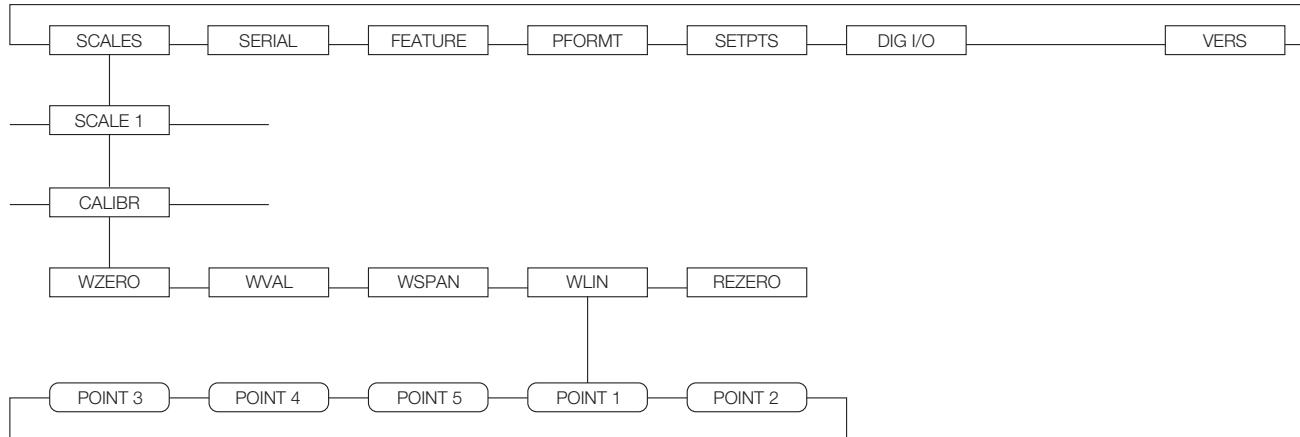
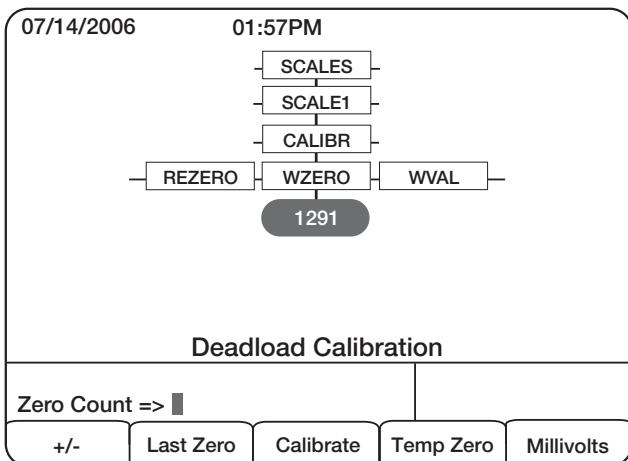

Figure 4-1. Calibration (CALIBR) Submenu
Figure 4-2. WZERO Calibration Display
The CALIBR submenu (under the SCALES menu, see Figure 4-2) is used to calibrate the 920*i*. The zero, span, and linear calibration point displays provide a set of softkeys used specifically for calibration procedures:
2. With the **SCALES** menu highlighted, press the **down** key, then select the scale to be calibrated. Press **down** again (**GRADS** parameter highlighted), then press **left** to highlight the **CALIBR** submenu (see Figure 4-1). Press **down** to go to zero calibration (**WZERO**). See Figure 4-2 on page 56.